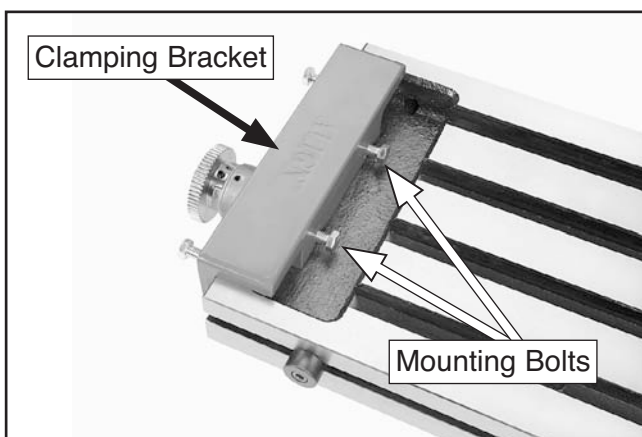

Figure 13. Clamping bracket assembly.
2. Set the clamping bracket assembly on the left end of the table and tighten down the mounting bolts (**Figure 13**).